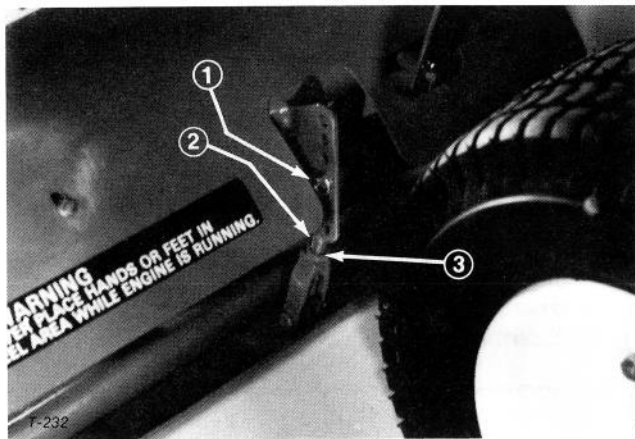

Figure 27
**Height-of-Cut:** Height of cut is adjustable from 1/2 to 2-1/4 in. (13 to 57 mm) (Fig. 27).
1. To set height-of-cut, remove hairpin cotter from links on each cutting unit and move links (Fig. 27).
3. Cutting units can be more finely adjusted to either level a unit, more closely match height setting with the other units or adjust to an intermediate setting. Loosen jam nut on links, remove hairpin cotter and remove link from hole (Fig. 27).
4. Turn link either in or out to achieve desired setting, install link into hole and tighten jam nut (Fig. 27).